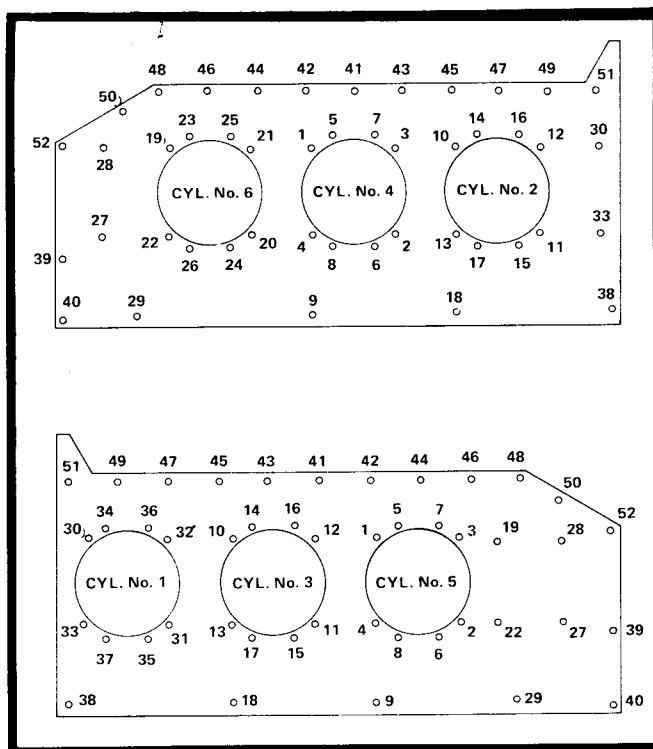

Figure 8-4. Torquing Sequence.
j. Attach the manifold valve and bracket assembly (25 through 33, Figure 4-2) to the backbone at hole position (47, 45, Figure 8-4). Install lifting eye (27, Figure 4-12) at the (45, 43) hole position. Secure finger tight with spacers (28, 84), washer (29), bolts (30), lockwashers (26) and nuts (25). Attach throttle body bracket (21) to backbone at hole position (48, 46, Figure 8-4) with attaching parts (24, 23, 22, 20, 19, 18). On TSIO-360-C & D engines, install bracket (90) in place of bracket (21) and install bracket (91) in hole position (43, 41) on backbone. Install attaching parts (31 through 34) in remaining holes of upper parting flange. Attach right mount brackets to the overhaul stand bed. Rotate the stand to place the engine in an upright position.
d. Rotate crankshaft until No. 5 connecting rod is at its outermost position. Install No. 5 piston and cylinder as described above. Tighten stud nuts and thru bolts to the torque specified in Table of Limits, Section VI. Tighten in sequence shown in Figure 8-4.